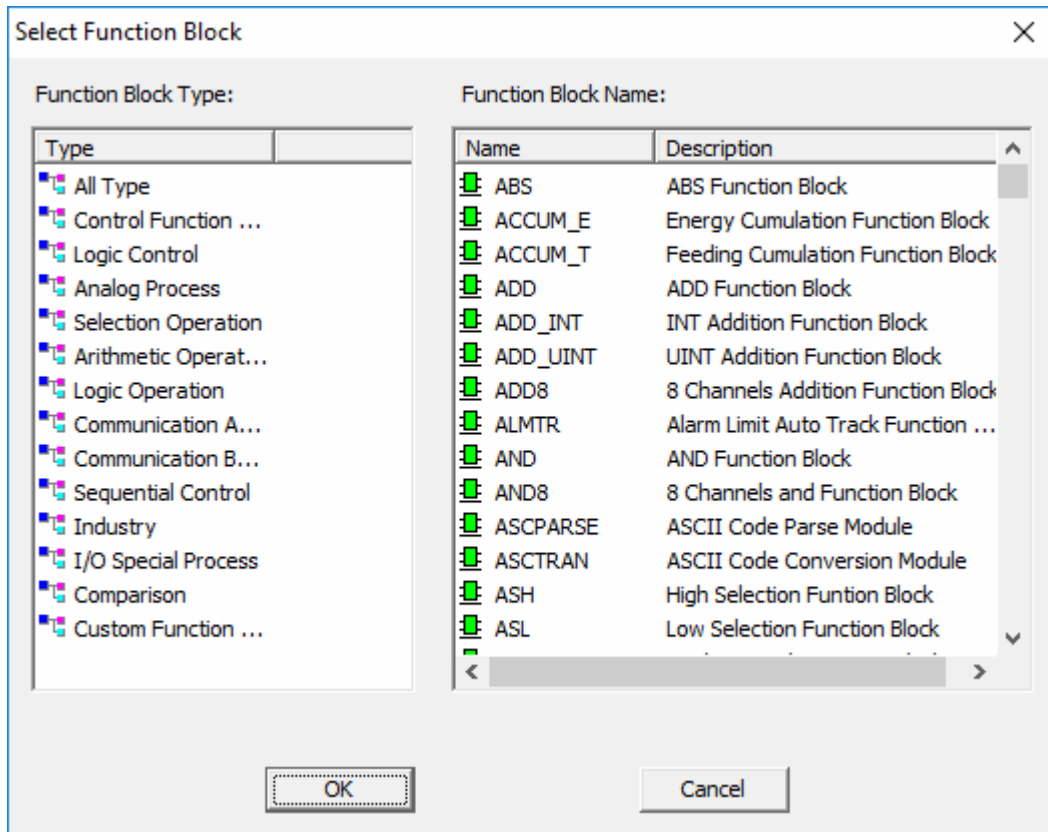

Figure 2-10 Add a function block variable
2. Click browse button  behind “Type Name”, the dialog box of "Function Block Selection" will pop up, which displays all types of function block, as shown in Figure 2-10, and choose one function block from them.